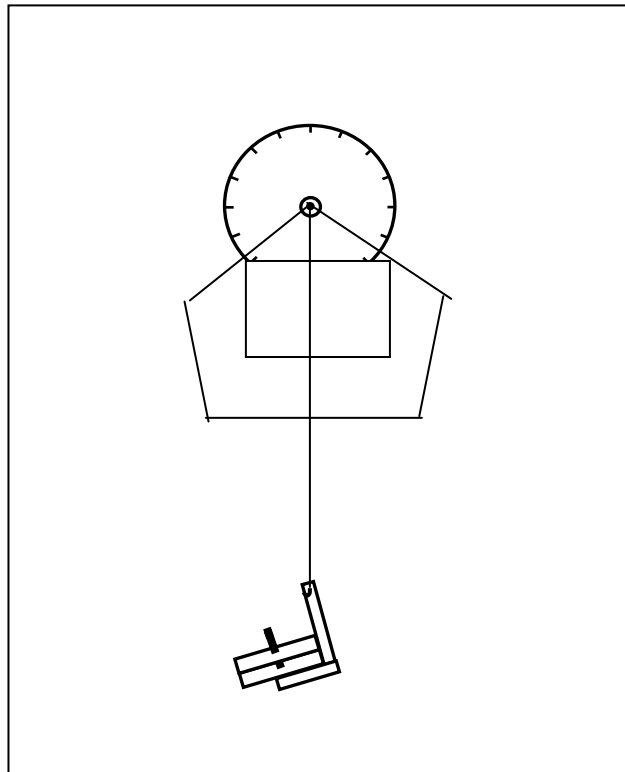

Figure 3.3: Finding the center of mass
- Hang the planar mass from the holding pin of the degree plate as shown in Fig.3.3. Since the force of the pin acting on the mass is equilibrant to the sum of the gravitational forces acting on the mass, the line of the force exerted by the pin must pass through the center of the mass of the planar mass. Hang a piece of string with a hanging mass from the holding pin.
- Tape a piece of paper to the planar mass as shown Fig.3.3. Mark the paper to indicate the line of the string across the planar mass. Now hang the planar mass from a different point. Again, mark the line of the string. By finding the intersection of the two lines, locate the center of mass of the planar mass.